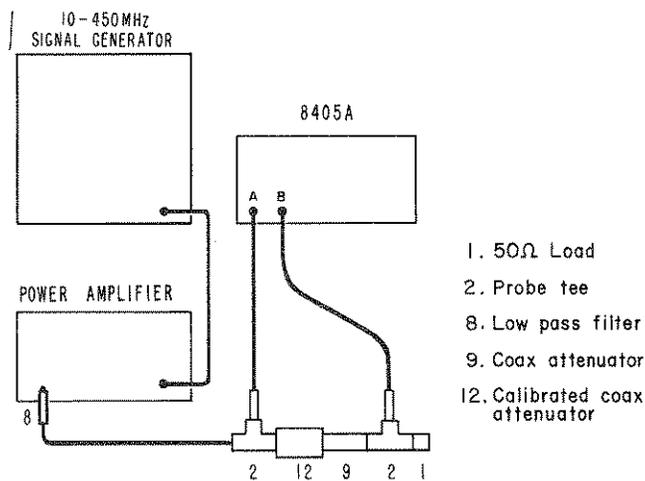

Figure 4. Voltage Ratio Accuracy
1. Set up test equipment as shown in Figure 4.